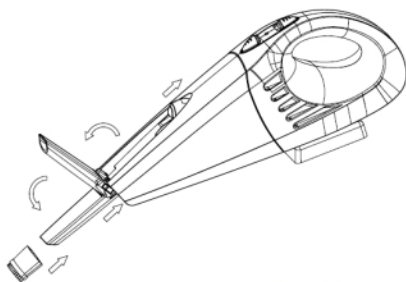

Fig.3
- To vacuum Assembly brush12 , use vacuuming accessory ( fig.3)